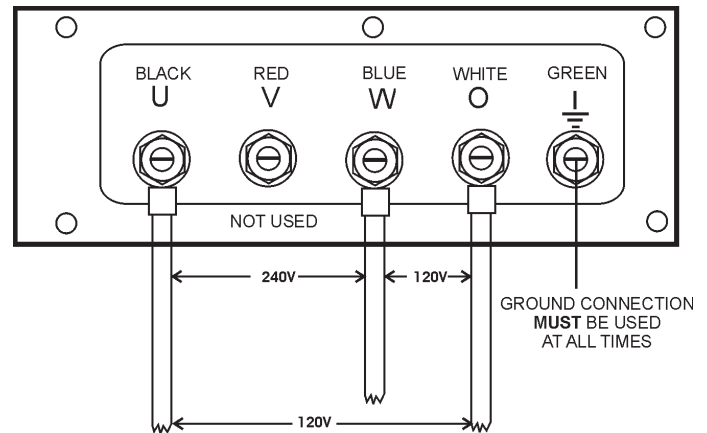

Figure 29. Output Terminal Lugs 1Ø-240/120V Connections
2. Connect the load wires to the **Output Terminal Lugs** as shown in Figure 29.